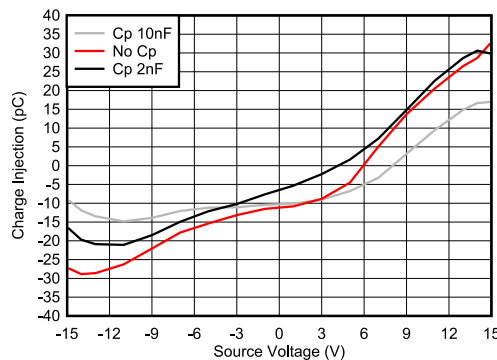

图 9-2. Charge Injection Compensation
The TMUX620x contain specialized architecture to reduce charge injection on the Drain (D). To further reduce charge injection in a sensitive application, a compensation capacitor ( $C_p$ ) can be added on the Source ( $S_x$ ). This will ensure that excess charge from the switch transition will be pushed into the compensation capacitor on the Source ( $S_x$ ) instead of the Drain (D). As a general rule of thumb,  $C_p$  should be 20x larger than the equivalent load capacitance on the Drain (D). 图 9-2 shows charge injection variation with different compensation capacitors on the Source side. This plot was captured on the TMUX6219 as part of the TMUX62xx family with a 100pF load capacitance.
Many SAR ADCs have an analog input structure that consists of a sampling switch and a sampling capacitor. Many signal chains will have a driver amplifier to help charge the input of the ADC to meet a fast system acquisition time. However a driver amplifier is not always needed to drive SAR ADCs. Figure 9-2 shows a typical diagram of a sensor driving the SAR ADC input directly after being passed through the multiplexer. A filter capacitor ( $C_{FLT}$ ) is connected to the input of the ADC to reduce the sampling charge injection and provides a charge bucket to quickly charge the internal sample-and-hold capacitor of the ADC.
The sensor block simplifies the device into a Thevenin equivalent voltage source ( $V_{TH}$ ) and resistance ( $R_{TH}$ ) which can be extracted from the device datasheets. Similarly the multiplexer can be thought of as a series resistance ( $R_{ON(MUX)}$ ) and capacitance ( $C_{ON(MUX)}$ ). To ensure maximum precision of the signal chain the system should be able to settle within 1/2 of an LSB within the acquisition time of the ADC. Figure 9-2 shows the time constant can be calculated. This equation highlights the importance of selecting a multiplexer with low on-resistance to further reduce the system time constant. Additionally low charge injection performance of the multiplexer is helpful to reduce conversion errors and improve accuracy of the measurements.